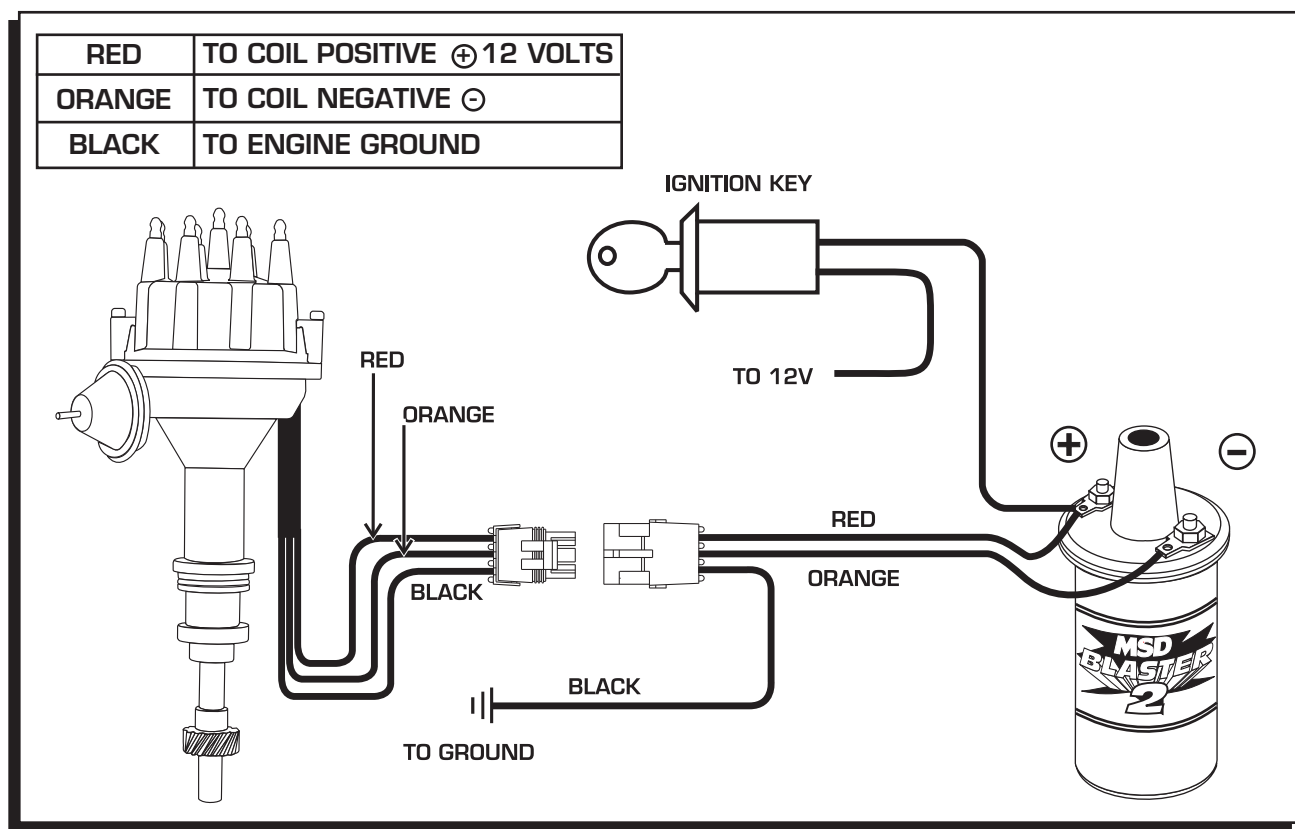

Figure 12 Wiring the Ready-to-Run Ford Distributor.
12. Connect the supplied wiring harness to the distributor. Route the wires to their connections as shown in Figure 12.